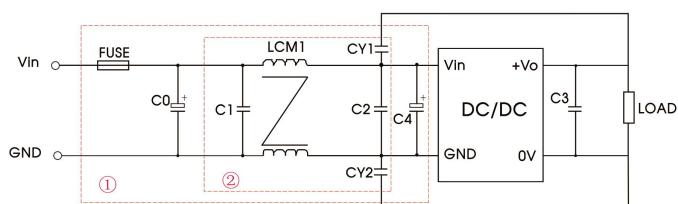

图 4
Notes: Part ① in the Fig. 4 is used for EMC test and part ② for EMI filtering; selected based on needs.